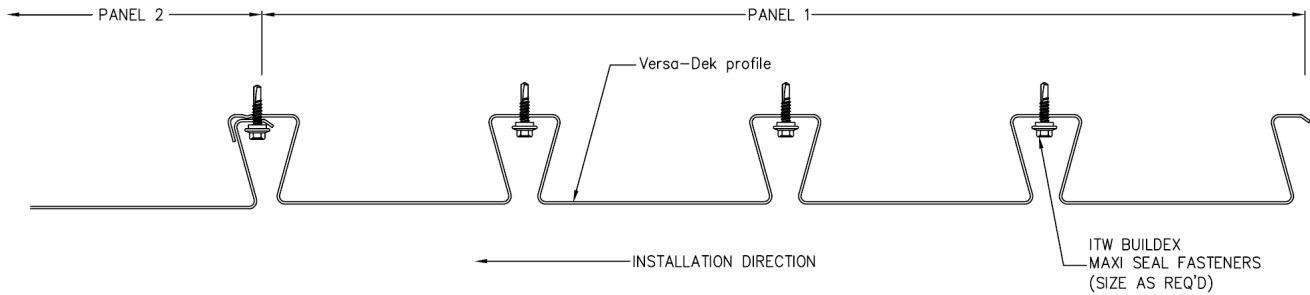

Figure 2: Support Attachment Information
5. Figure 2 – **Soffit-Dek™** - Support Attachment Information
- Figure 2 – **Soffit-Dek™** – Support Attachment Information